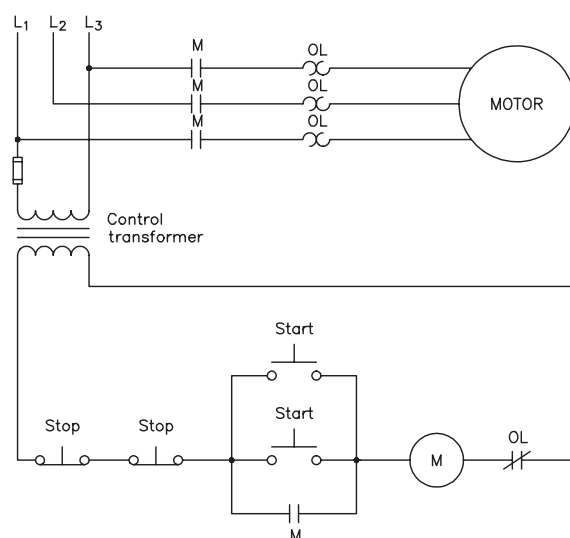
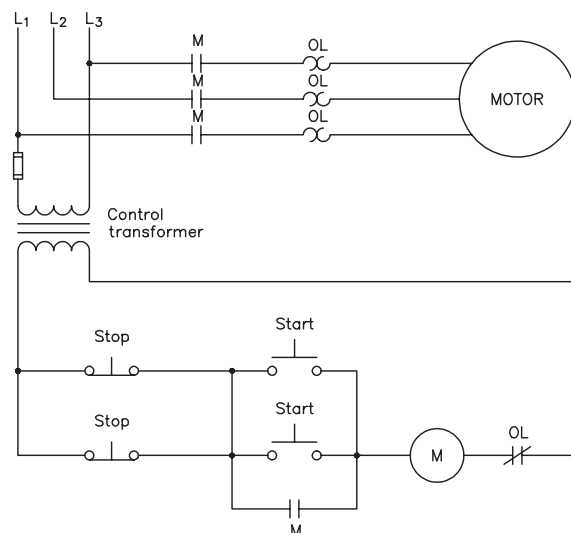

Figure 27-2 A second start button is added to the circuit.
Figure 27-6 The stop buttons are connected in parallel.
When a component is used to perform the function of start, it is generally normally open and connected in parallel with the existing start button (Figure 27-2). If either start button is pressed, a circuit will be completed to M coil. When M coil energizes, all M contacts change position. The three load contacts connected between the three-phase power line and the motor close to connect the motor to the line. The normally open auxiliary contact connected in parallel with the two start buttons close to maintain the circuit to M coil when the start button is released.
3. The two stop push buttons in Figure 27-2 are connected in series with each other. What would be the action of the circuit if they were to be connected in parallel as shown in Figure 27-6?